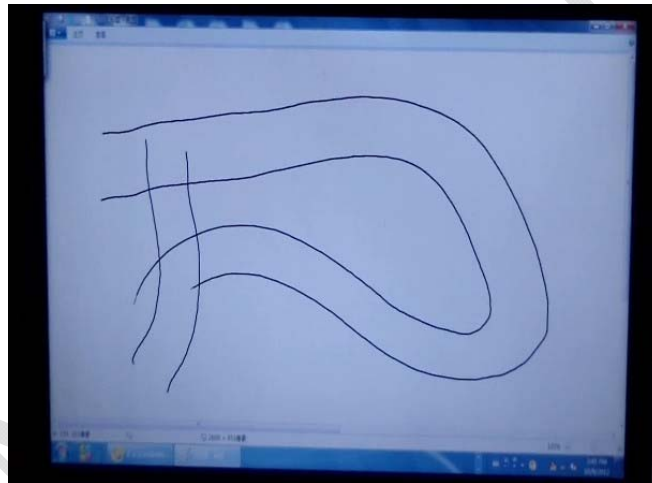

Fig. 13 Test the Touch Frame
- 4) Run the paint software, touch around the touch frame by any opaque objects whose diameters should be bigger than 5mm, as shown in Fig. 13. Then check whether multi-touch function is normal.